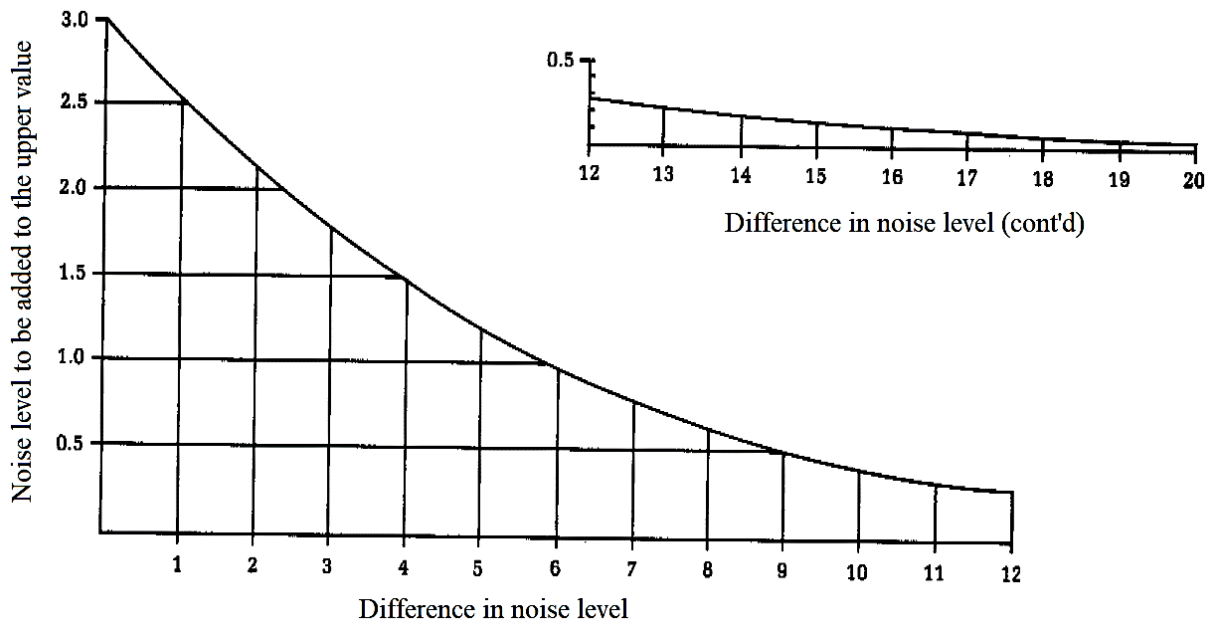

Figure 1: Noise level summation chart
- (c). The following ideal noise levels in dB (A) were generated at the same time in a control room: 58, 65, 73, 80, 77. Using **Figure 1**, calculate the composite Sound Pressure Level (L_p) that will be heard. Comment the answer.
*Paras bunyi ideal berikut dalam dB (A) telah dijana serentak dalam bilik kawalan: 58, 65, 73, 80, 77. Menggunakan **Rajah 1**, nilaikan Paras Tekanan Bunyi (L_p) komposit yang bakal didengari. Komen jawapan yang diperoleh.*